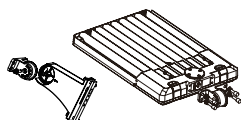

Fig 4
Step 1: Remove the bracket base from the bracket and then install the bracket base onto the light fixture with included fasteners. (Fig. 4)